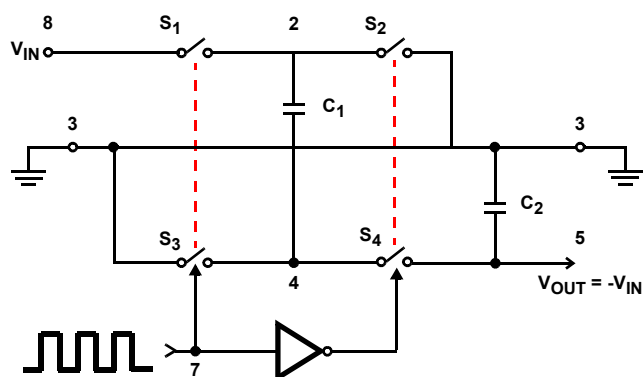
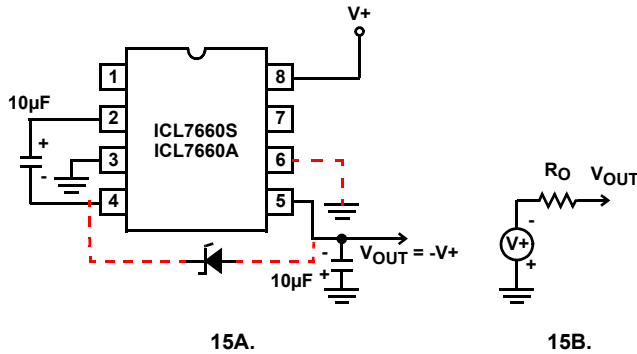

FIGURE 14. IDEALIZED NEGATIVE VOLTAGE CONVERTER
FIGURE 15. SIMPLE NEGATIVE CONVERTER AND ITS OUTPUT EQUIVALENT
The ICL7660S and ICL7660A contain all the necessary circuitry to complete a negative voltage converter, with the exception of two external capacitors, which may be inexpensive 10 $\mu$ F polarized electrolytic types. The mode of operation of the device may best be understood by considering Figure 14, which shows an idealized negative voltage converter. Capacitor  $C_1$  is charged to a voltage,  $V_+$ , for the half cycle, when switches  $S_1$  and  $S_3$  are closed. (Note: Switches  $S_2$  and  $S_4$  are open during this half cycle). During the second half cycle of operation, switches  $S_2$  and  $S_4$  are closed, with  $S_1$  and  $S_3$  open, thereby shifting capacitor  $C_1$  to  $C_2$  such that the voltage on  $C_2$  is exactly  $V_+$ , assuming ideal switches and no load on  $C_2$ . The ICL7660S and ICL7660A approach this ideal situation more closely than existing non-mechanical circuits.
In the ICL7660S and ICL7660A, the four switches of Figure 14 are MOS power switches;  $S_1$  is a P-Channel device; and  $S_2$ ,  $S_3$  and  $S_4$  are N-Channel devices. The main difficulty with this approach is that in integrating the switches, the substrates of  $S_3$  and  $S_4$  must always remain reverse biased with respect to their sources, but not so much as to degrade their "ON" resistances. In addition, at circuit start-up, and under output short circuit conditions ( $V_{OUT} = V_+$ ), the output voltage must be sensed and the substrate bias adjusted accordingly. Failure to accomplish this would result in high power losses and probable device latch-up.
where  $V_1$  and  $V_2$  are the voltages on  $C_1$  during the pump and transfer cycles. If the impedances of  $C_1$  and  $C_2$  are relatively high at the pump frequency (see Figure 14) compared to the value of  $R_L$ , there will be a substantial difference in the voltages,  $V_1$  and  $V_2$ . Therefore it is not only desirable to make  $C_2$  as large as possible to eliminate output voltage ripple, but also to employ a correspondingly large value for  $C_1$  in order to achieve maximum efficiency of operation.
The majority of applications will undoubtedly utilize the ICL7660S and ICL7660A for generation of negative supply voltages. Figure 15 shows typical connections to provide a negative supply where a positive supply of +1.5V to +12V is available. Keep in mind that pin 6 (LV) is tied to the supply negative (GND) for supply voltage below 3.5V.
The output characteristics of the circuit in Figure 15 can be approximated by an ideal voltage source in series with a resistance as shown in Figure 15B. The voltage source has a value of  $-(V_+)$ . The output impedance ( $R_O$ ) is a function of the ON resistance of the internal MOS switches (shown in Figure 14), the switching frequency, the value of  $C_1$  and  $C_2$ , and the ESR (equivalent series resistance) of  $C_1$  and  $C_2$ . A good first order approximation for  $R_O$  is shown in Equation 2:
Figure 19 combines the functions shown in Figure 15 and Figure 18 to provide negative voltage conversion and positive voltage doubling simultaneously. This approach would be suitable, for example, for generating +9V and -5V from an existing +5V supply. In this instance, capacitors  $C_1$  and  $C_3$  perform the pump and reservoir functions, respectively, for negative voltage generation, while capacitors  $C_2$  and  $C_4$  are pump and reservoir, respectively, for the doubled positive voltage. There is a penalty in this configuration which combines both functions, however, in that the source impedances of the generated supplies will be somewhat higher, due to the finite impedance of the common charge pump driver at pin 2 of the device.
resistor to the LV pin ensures start-up. Because the switches share the load in parallel, the output impedance is much lower than in the standard circuits, and higher currents can be drawn from the device. By using this circuit, and then the circuit of Figure 15, +15V can be converted, via +7.5 and -7.5, to a nominal -15V, although with rather high series output resistance ( $\sim 250\Omega$ ).